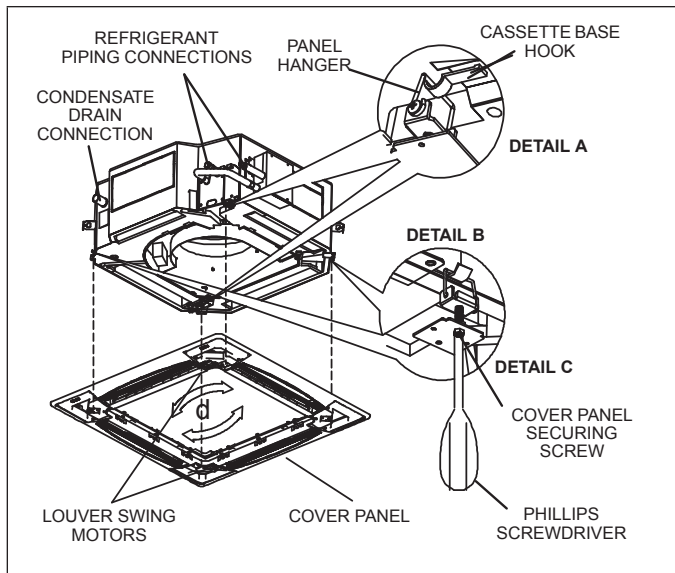

Figure 18. Install Cover Panel
- Place the cover panel hangers on the two corners with the louver swing motors. Place these two hangers on the corresponding hooks on the corners of the cassette base. See detail A in “Figure 18. Install Cover Panel”. Then, place the other hangers from the other two corners over their corresponding hooks on the cassette base as shown in detail B in “Figure 18. Install Cover Panel”.
- Tighten the provided screws in the bracket in the cover panel immediately below each panel hanger. See detail C in “Figure 18. Install Cover Panel”. Adjust the cover panel by turning slightly clockwise, if necessary, to make sure that the panel is properly aligned with the cassette base.